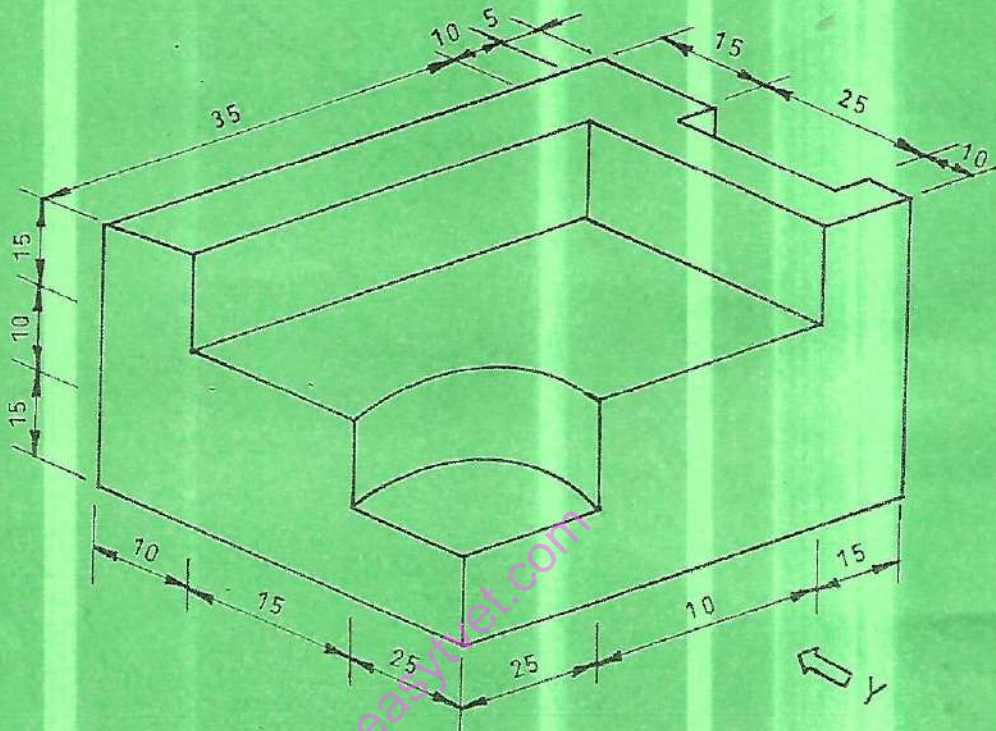

Fig.7
7. Figure 7 shows an isometric view of a shaped block. Draw full size in third angle projection the following views: